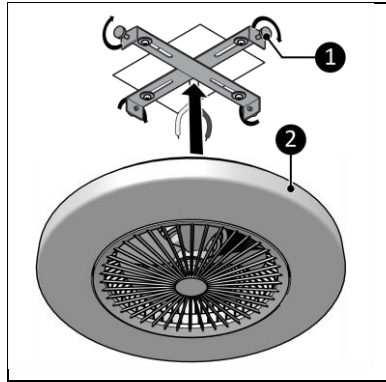

Figure 6
- Use the side screws (Figure 6, pos. 1) to attach the fan (Figure 6, pos. 2) to the suspension bracket.